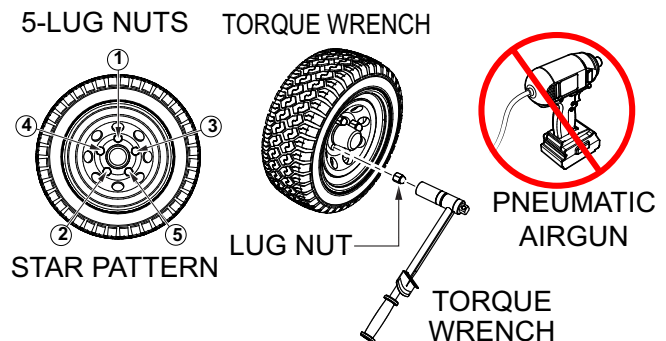

Figure 18. Wheel Lug Nuts Tightening Sequence
4. Torque all lug nuts in sequence. See Figure 18. **DO NOT** torque the wheel lug nuts all the way down. Tighten each lug nut in 3 separate passes as defined by Table 2.